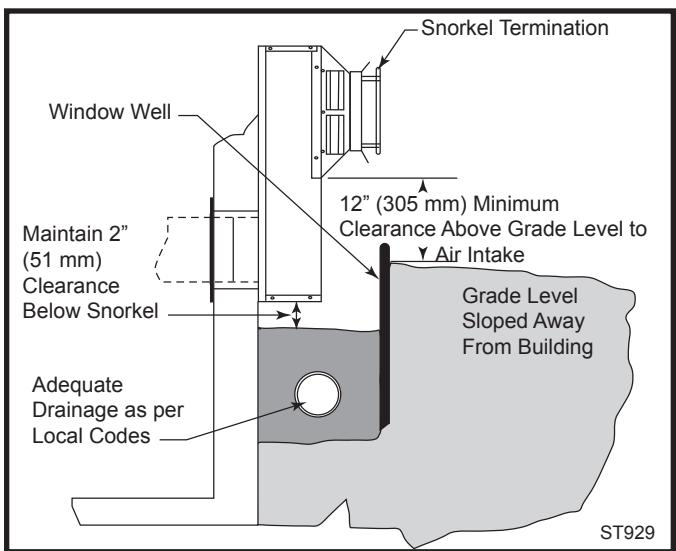

Fig. 39 Below grade installation.
ance and plan vent routing accordingly. Consider locating the appliance in a place where there will be no interference with wall studs, electrical wiring, conduit, plumbing pipe or other obstructions. The termination should be located at least 12" (305 mm) (Fig. 39) above grade, remain above the snow line in geographical areas that accumulate snow and be away from traffic areas such as walkways if it is less than 7' (2.1 m) high. Refer to Pages 11, 12, Figures 11, 12 for more detail.
7. If a wall thimble is used, push the pipe (which is connected to the appliance) carefully through the wall thimble until the DIRECT-TEMP pipe becomes fully engaged with the horizontal termination. If no thimble is used, place the Trim Plate (TP) on the DIRECT-TEMP pipe. Carefully push the DIRECT-TEMP pipe through the wall until fully engaged with the horizontal termination. Secure the trim plate to the wall.
NOTE: If a vertical rise is necessary on the exterior side of the building, a 14" (356 mm) and 36" (914 mm) Snorkel Termination (ST) is available. Follow the installation procedures for horizontal terminations. If the snorkel termination is to be located below grade, a window well is recommended with adequate and proper drainage as per local codes. Leave 2" (51 mm) clearance below snorkel to prevent water from entering the snorkel termination. Do not enclose the snorkel within a wall or other type of enclosure and **do not back fill**. Ensure that grade level slopes away from the building. (Fig. 39)